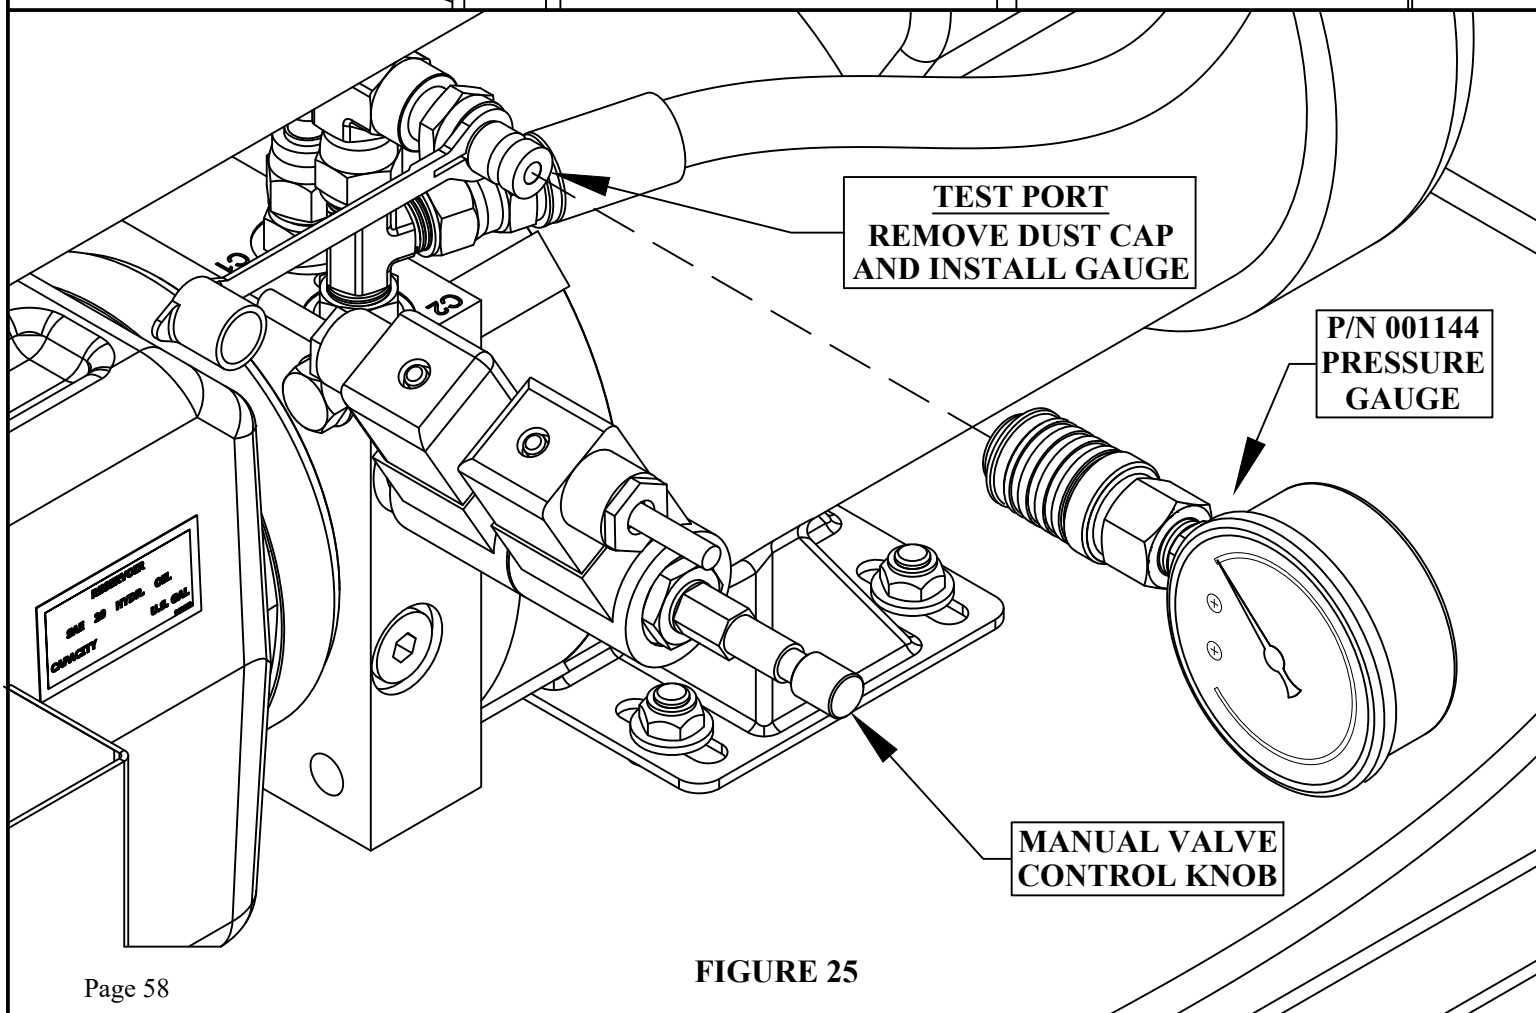

FIGURE 25
3. Locate the manual valve control knob. This is a red knob located on the control valve between the motor and reservoir. SEE FIGURE 25.
► **NOTE: THERE IS A PRESSURE TEST PORT PROVIDED ON THE MACHINE TO CHECK THE SYSTEM PRESSURE. THE TEST PORT IS LOCATED ON TOP OF THE CONTROL VALVE IN THE BASE OF THE MACHINE. A PRESSURE GAUGE WITH A MINIMUM OF THREE THOUSAND (3,000) P.S.I. (207 BAR) IS REQUIRED. A PRESSURE GAUGE WITH TEST PORT ADAPTOR IS AVAILABLE FROM SCOTCHMAN INDUSTRIES AS P/N 001144 (See Fig. 25).**
2. With the machine's power off, install the pressure gauge. SEE FIGURE 25